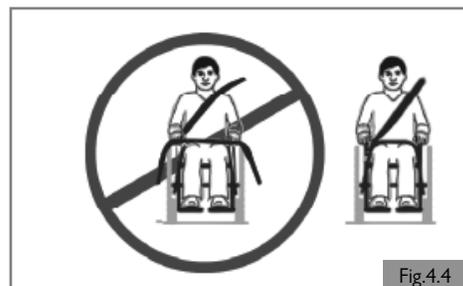

Fig.4.4
23. Restraint belts must be adjusted as tightly as possible consistent with user comfort, and should not constrict breathing (Fig. 4.4).